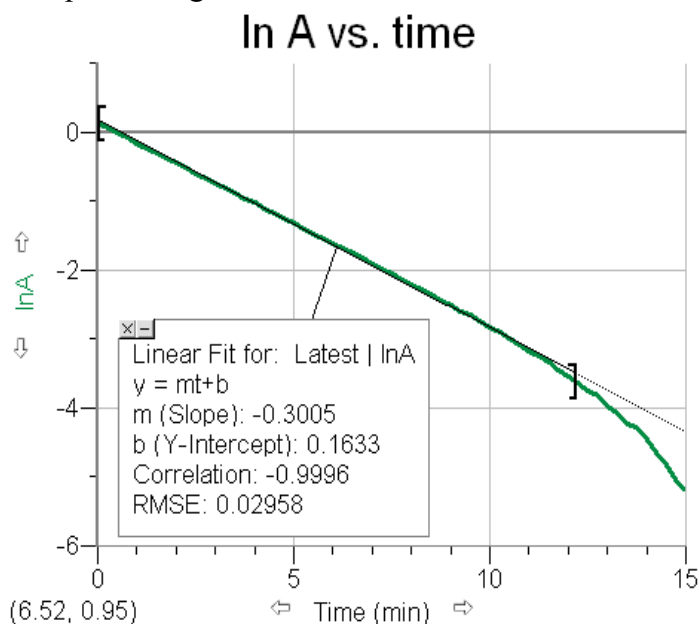

Figure 10. Kinetics plot with a shortened time range. The A_{∞} offset used was too large producing curvature at the very end of the plot.
- f. The very long-time behavior of your plot may be noisy and may have some curvature, Figure 10. This curvature may be caused by not knowing the exact A_{∞} offset from step 1, above. You can narrow the range for the linear curve fit by dragging the \lbrack at the right-hand side of the plot. However, keep the fitting interval as wide as possible. (If the \lbrack handle isn’t showing, remove the current curve and fit again.) Use the same time interval when comparing the curve fit for the $1/A$ vs. time plot, to make a fair comparison. Alternatively, you can adjust the A_{∞} in the calculation for the A column to get a longer linear range. You can edit the formula for a column by double clicking the column label in the data table.